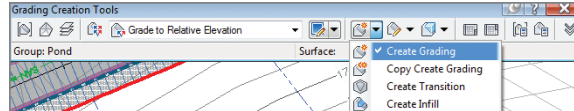

FIGURE 17.12 Selecting the Create Grading command
6. Expand the list of creation commands, and click Create Grading, as shown in Figure 17.12.